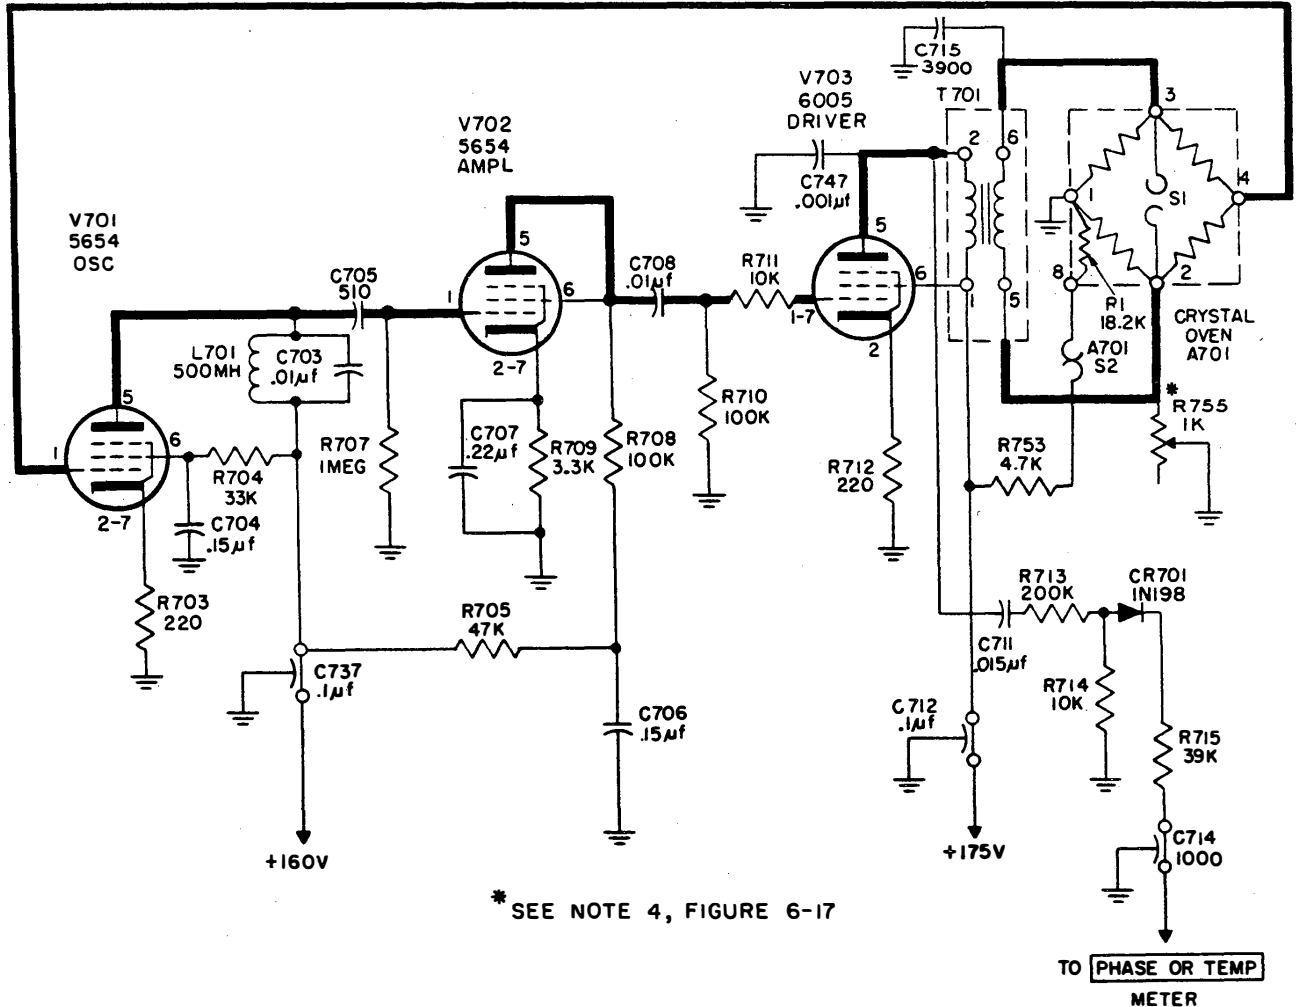

Figure 4-38. Oven Oscillator-Amplifier, Simplified Schematic Diagram
*a. OVEN OSCILLATOR-AMPLIFIER.* (See figure 4-38.)—The oven oscillator-amplifier circuit is a fixed-frequency audio amplifier with a positive feedback which produces circuit oscillation. Power produced by the oscillator is applied to the heating elements of crystal oven assembly A701.
the oven are also parts of the oven assembly but not functional parts of the oven oscillator-amplifier circuit; therefore they have been omitted from figure 4-38. The complete oven is mounted in a Dewar flask similar to a vacuum bottle. The flask is protected against shock by a fibreglas blanket and mounted in a steel container. This assembly is a single unit; components cannot be removed for individual repair or replacement.